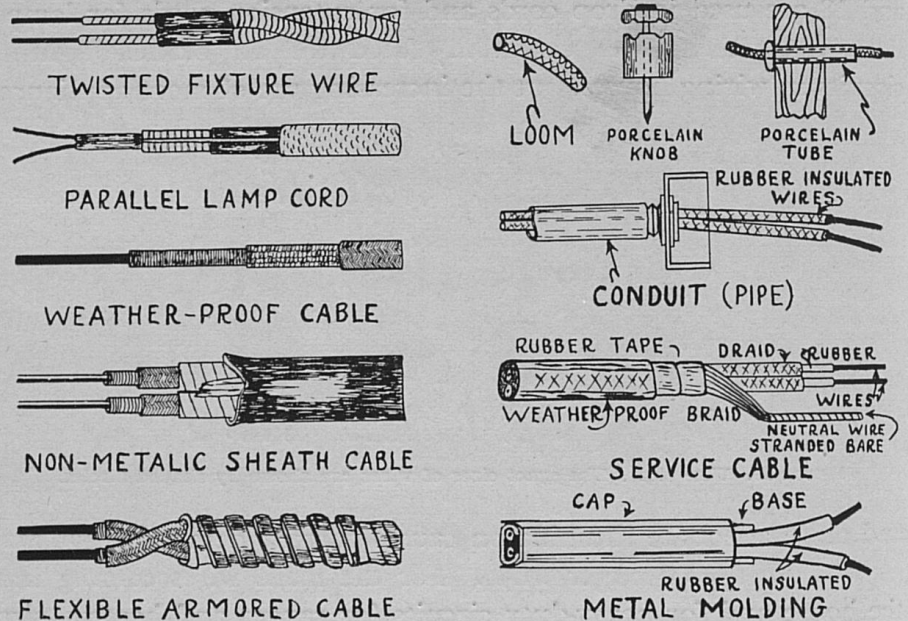

FIGURE 20. Wiring materials.
*Armored Cable or Flexible Conduit.* Armored cable is very extensively used (see figure 20). It is sold under a variety of trade names such as (BX), flaxsteel, etc. Type AC (armored cable) consists of two or more rubber-covered wires over which is a heavy layer of kraft paper, and over that a continuous ribbon wrapping of steel, each turn interlocking with the next, permitting the complete assembly to be flexible. Type ACL (armored cable lead) is made the same as type AC except that it has a lead sheath beneath the armor. Armored cable may be used for open or concealed work, but type ACL may be embedded in masonry or used in locations exposed to moisture. The cable may be drawn thru walls, partitions, floors and ceilings and may be held in place by pipe straps or staples. In armored cable work, all connections and joints are made inside of special approved boxes known as switch and outlet boxes and the steel boxes must be polarized or grounded to the neutral wire. All joints must be properly soldered and taped. In cutting the metal armor, care must be taken not to injure the insulation on the wires which may cause a "short" (a fire hazard).
*Nonmetallic Cable.* In the nonmetallic cable, each conductor wire is wrapped with an individual, spirally-wound layer of kraft paper (see Figure 20). Over all is placed a rubber sheathing or a tough outer layer of fabric impregnated in various solutions to make it water, fire and weather resistant. The cable is sold under various trade names, such as "Romex," "Cablex," "Cresflex," etc.
*Metal Mouldings.* Recently a number of metal-moulding conduits have been placed on the market to be used for protecting the wires on exposed surfaces of walls in structures already built (see Figure 20 and item 20 Figure 21). This type may be used in combination with other types of wiring.